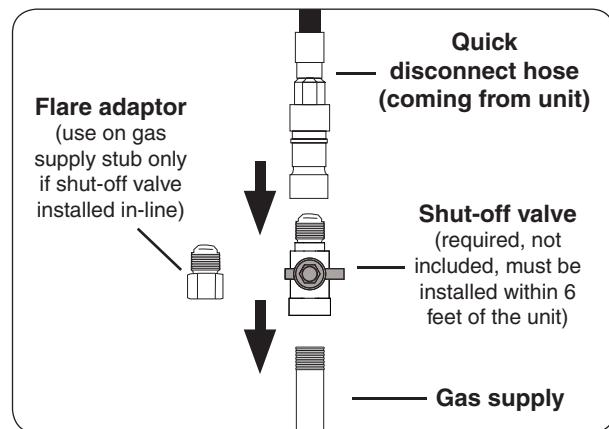

Fig. 15-2 Connecting to a gas line
- Connect the quick disconnect hose to the shut-off valve (see Fig. 15-2). Tighten securely.
- Install the supplied flare adapter to the gas supply using a pipe joint compound resistant to all gasses (see Fig. 15-2). Tighten securely.
- Connect the quick disconnect hose to the flare adapter (see Fig. 15-2). Tighten securely.